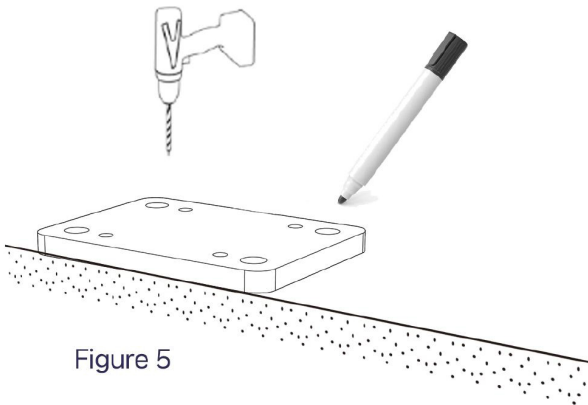

Figure 5
5. Once you've selected the post installation spot, position the post base on the concrete surface. Use a pencil or marker to mark the drill hole locations, following the pattern in Figure 5, and proceed to drill the holes.